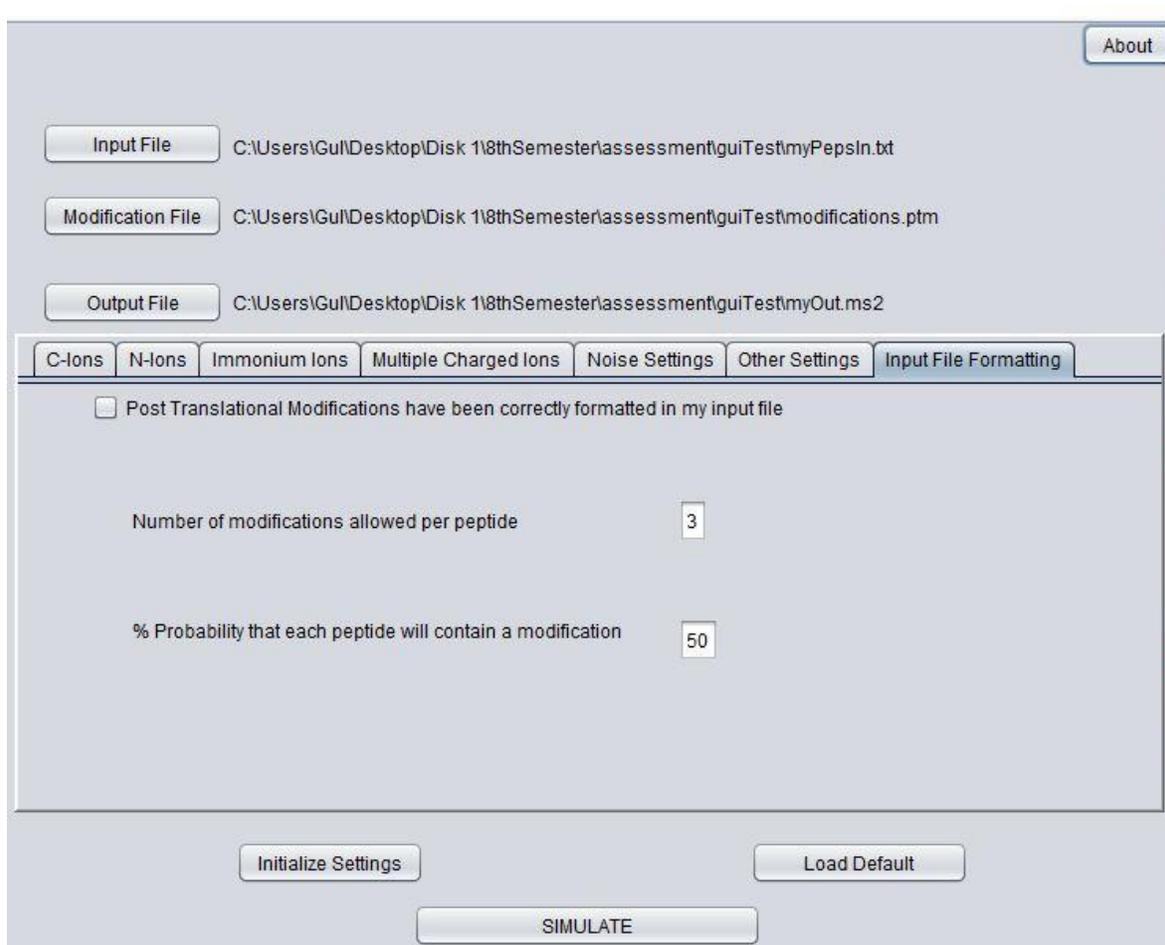

Figure 8
- To add PTMs to the input file using file formatting tool. Users can uncheck the check box on top of "Input File Formatting" tab and enter the values in fields below. As shown in the Figure 8.